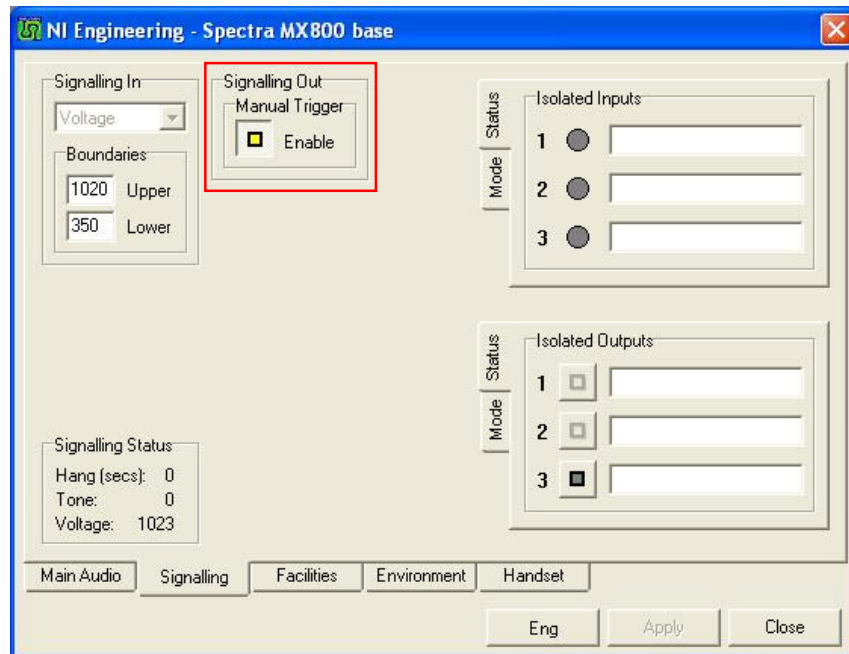

Figure 9. NI Engineering – Signalling tab, Manual Trigger.
- 12.4. On the “Signalling” Tab, select “Manual Trigger” (see **Figure 9** overleaf).
- 15.1. On the “Signalling” tab, deselect “Manual Trigger” to de-key the Tx (see **Figure 9**).